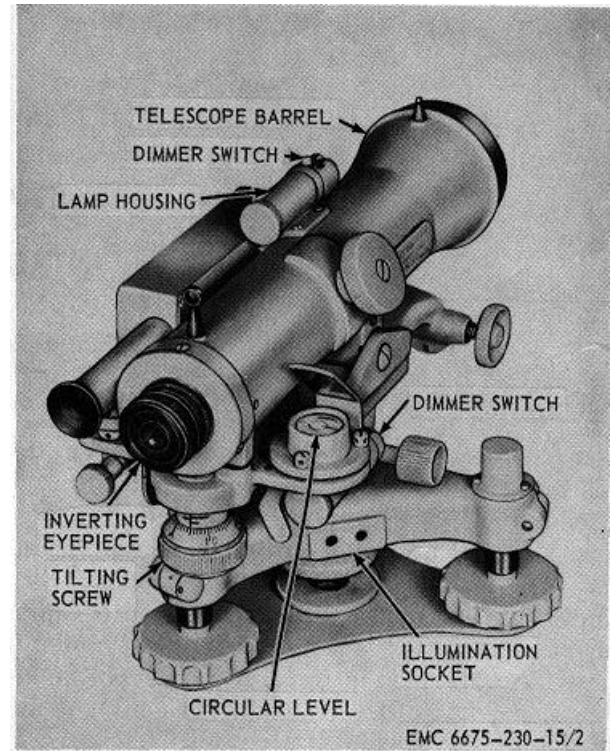

Figure 2. Surveying level, right rear, three-quarter view.
a. *Identification.* The serial number and manufacturer's name are engraved on the right side of the telescope as shown in figure 2.